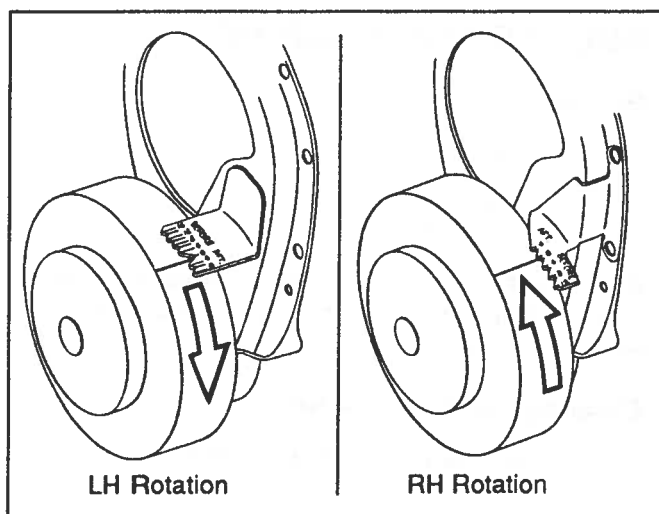

Figure 8-196. Engine In No. 1 Firing Position
2. With engine in No. 1 firing position as determined above, the valves indicated in Figure 8-196 may be adjusted.